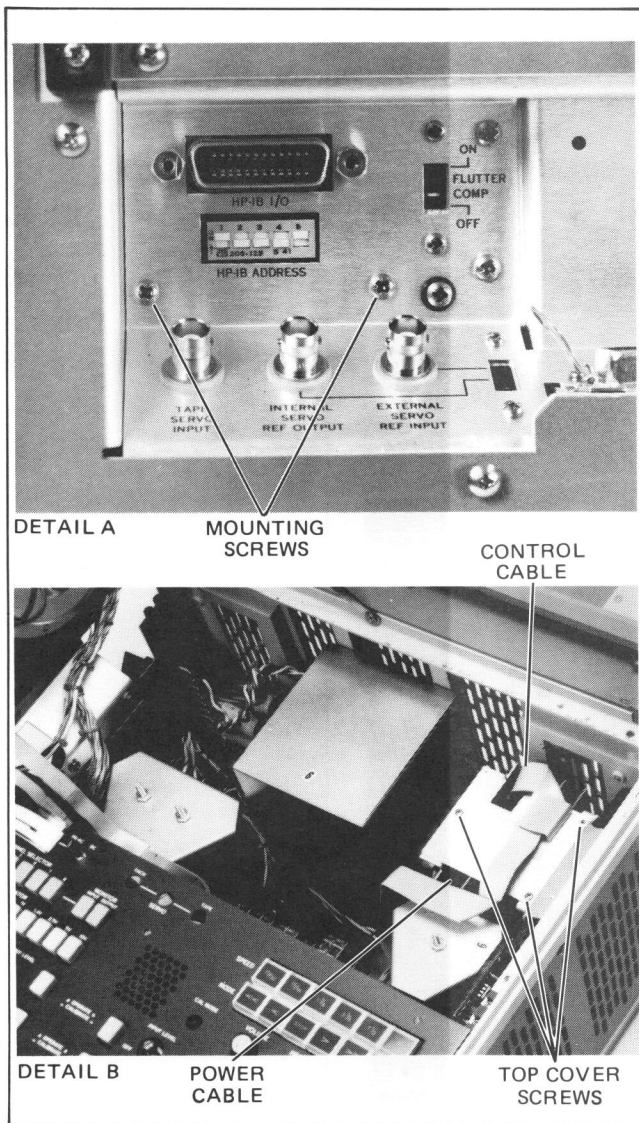

Figure 5-63. HP-IB Assembly Removal
- c. Remove the two screws and lock washers and the two connector nuts from the HP-IB Assembly (see Detail A, Figure 5-63).
- e. Remove the top cover from the HP-IB. The three screws are identified in Detail B, Figure 5-63.
f. Remove the multiconductor flat control cable from the HP-IB Interface PCA (see Detail B, Figure 5-63). The PCA must be pulled from the module to allow connector removal.